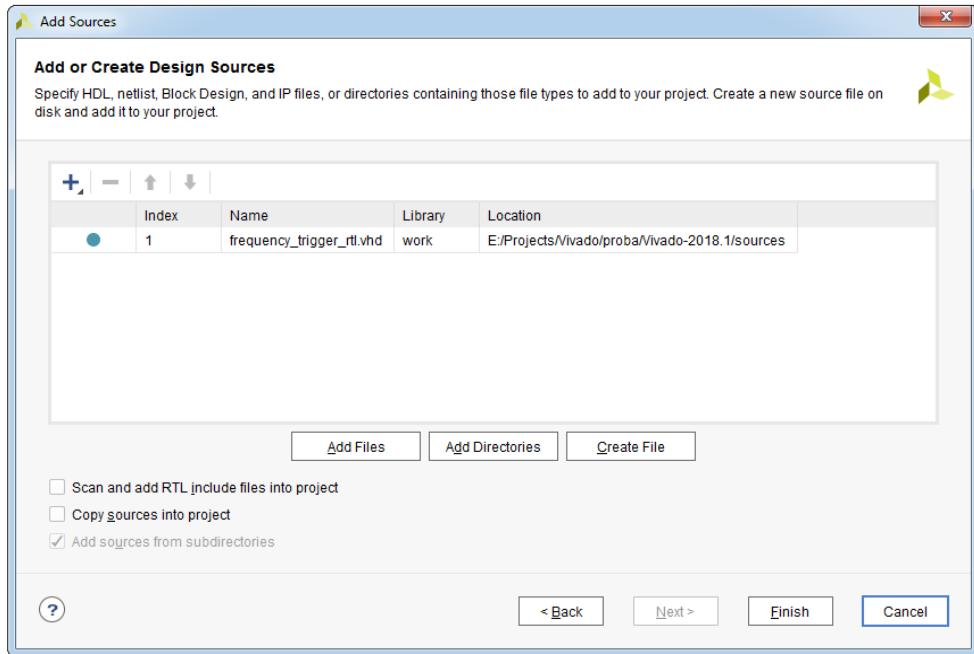

Figure 2.26: Add or Create Design Sources dialog box - with added file
13. Click **OK** and the ***frequency_trigger_rtl.vhd*** source file should appear in the **Add or Create Design Sources** dialog box, as it is shown on the Figure 2.26.